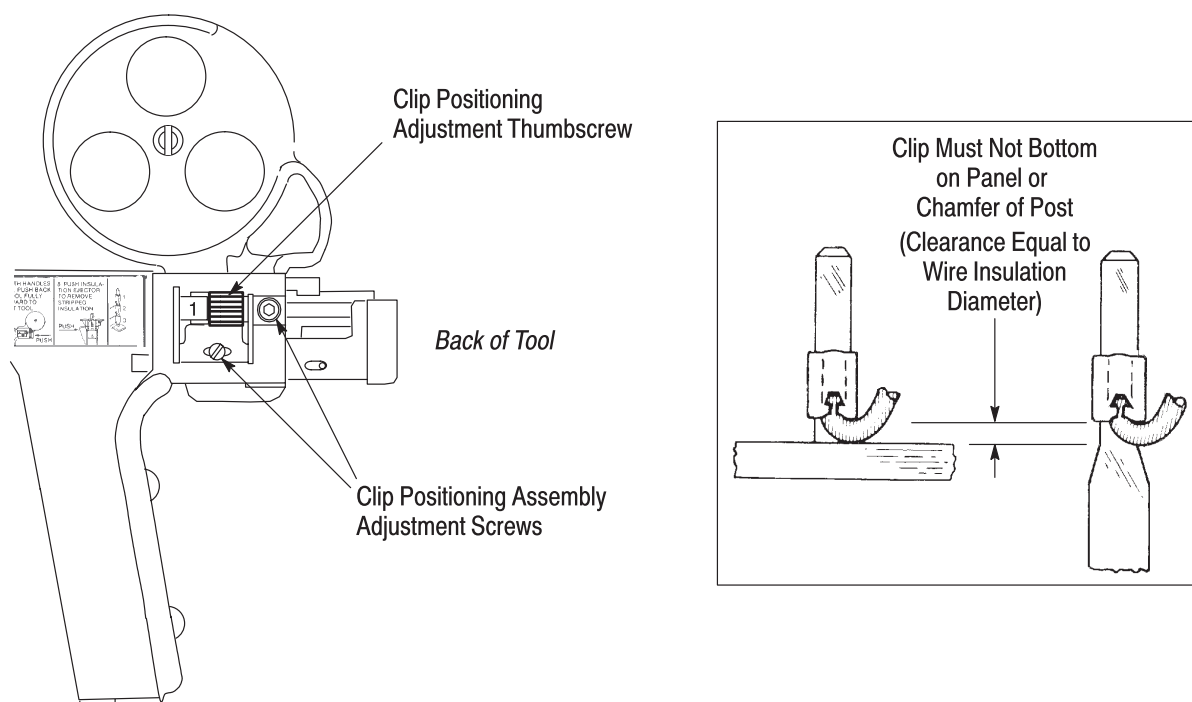

Figure 11
1. Loosen the clip positioning assembly adjustment screws. Refer to Figure 11.
2. Loosen the clip positioning assembly adjustment screw behind the clip positioning adjustment thumbscrew. See Figure 11.
4. Tighten the clip positioning assembly adjustment screw behind the clip positioning adjustment thumbscrew. See Figure 11.